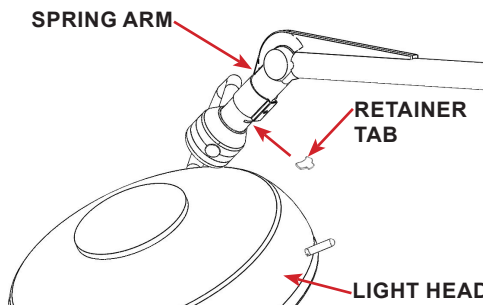

FIGURE 2.42 - Retainer Tab
STEP 7: Slide the sleeve to lock the metal tab in place, listen for click to verify the sleeve is locked. Refer to FIGURE 2.42